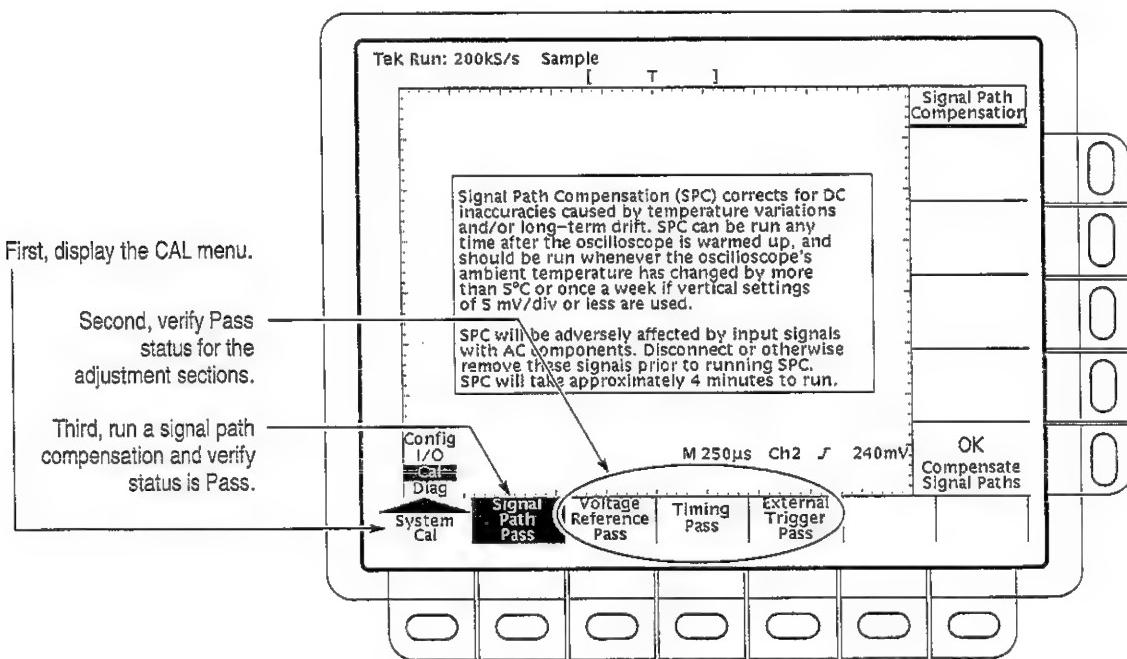

Figure 1-3: Verifying adjustments and signal path compensation
7. Check that the word Pass appears in the main menu under the Voltage Reference, Timing, and Ext Trig menu labels. (See Figure 1-3.) If any of the labels read Fail, the oscilloscope has failed the self test. Contact your Tektronix representative for assistance.
9. Check that the word Pass appears under Signal Path in the main menu. (See Figure 1-3.) If Pass does not appear, the oscilloscope has failed the performance verification; return it to Tektronix for servicing.